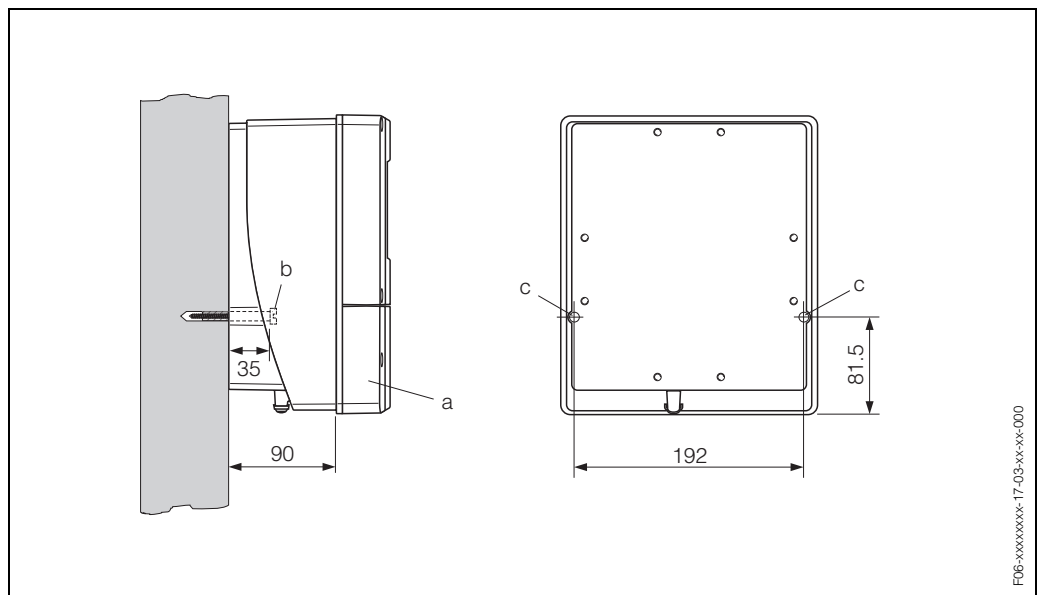

Fig. 26: Mounted directly on the wall
1. Drill the holes as illustrated in Fig. 26.